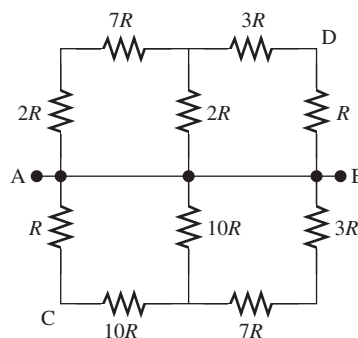

FIGURE P3.11 Resistor network for Problem 3.11.
3.11 (H)* For Figure P3.11, find (a) the equivalent resistance, R_{AB} and (b) the equivalent resistance R_{CD} .